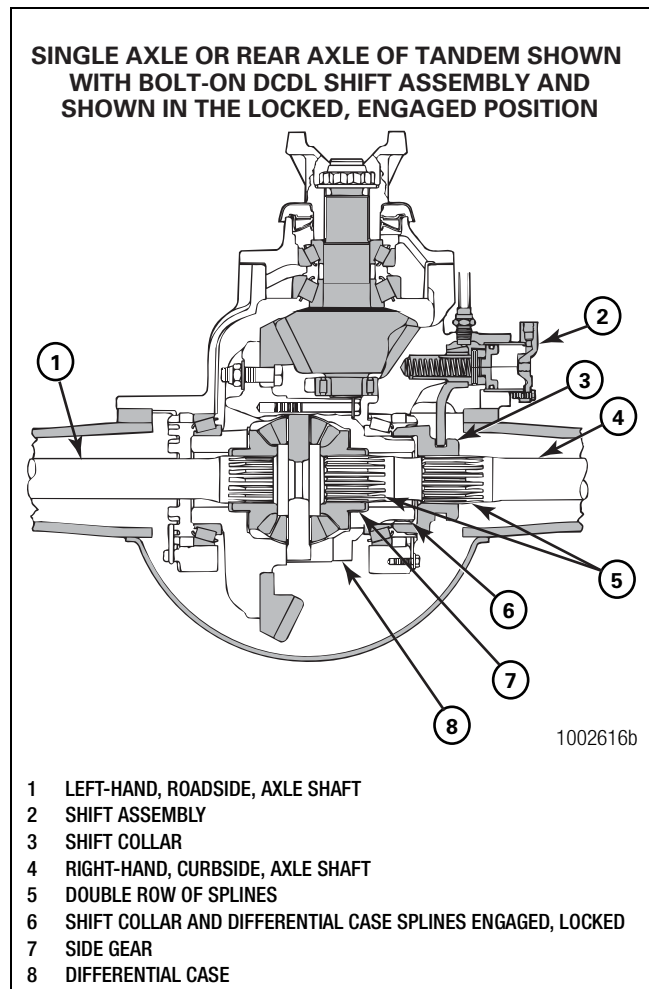

Figure 11.7
**NOTE:** When the shift collar is completely engaged with the splines of the main differential case, the differential is locked and the driveline cannot be rotated. Figure 11.7.
**NOTE:** Install only the axle shaft(s) shown in Table AK at this time. These axle shafts have a double row of splines that engage with the splines of the side gear and shift collar in the main differential. Figure 11.7.